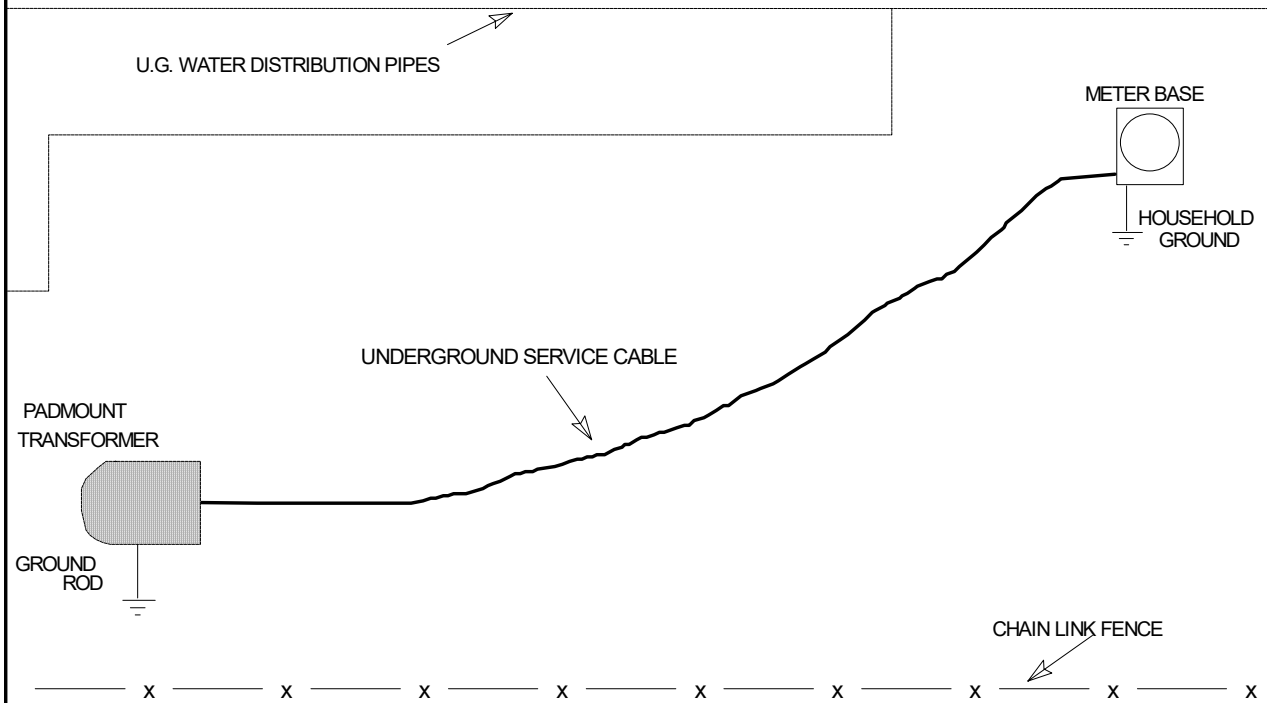

Figure 1
1.2 ON THE JOB SITE – The ACVGD® is easy to use and its application to the job of locating the precise location of the fault can be mastered in just a few times of use. The following discussion explains the techniques used to locate secondary voltage (less than 600 VAC) service cable faults with the ACVGD®. Please refer to the attached drawings throughout this discussion on the use of the ACVGD®. Figure 1 (pg 11) shows a typical layout of facilities in a customer's yard. There